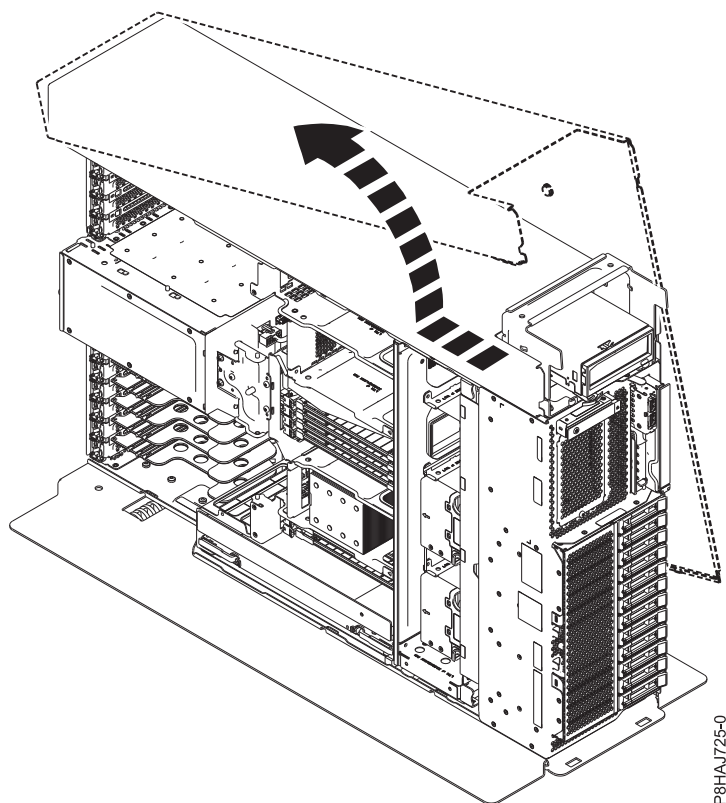

Figure 12. Removing the 8286-41A side cover
5. Slide the side cover off of the system in the direction that is shown in Figure 12 on page 32.